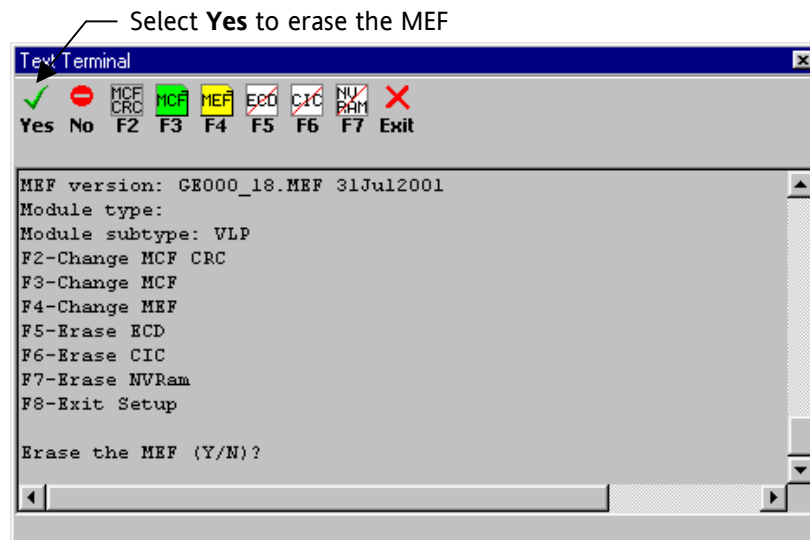

Figure 3-23
4. The prompt “Erase the MEF (Y or N)?” is displayed (figure 3-23). Select the **Yes** button.